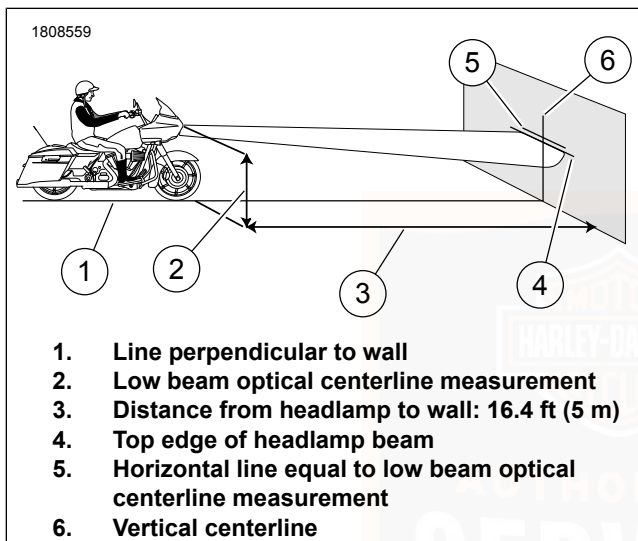

Figure 114. Headlamp Alignment
4. See Figure 114. Park the motorcycle on a line (1) perpendicular to the wall.
5. Position motorcycle so that the front of the headlamp is 16.4 ft (5 m) from the wall (3).
6. Draw a vertical centerline (6) on the wall aligned with perpendicular line (1).
7. With the motorcycle loaded, point the front wheel straight at wall. Measure the distance from the floor to the motorcycle eyebrow and subtract Distance: 1 in (25 mm) from that measurement to find low beam optical centerline (2).
8. Draw a horizontal line (5) through the vertical line on the wall, the same distance (2) from the floor as the low beam optical centerline. Draw another horizontal line (4) Distance: 1 in (25 mm) below horizontal line (5).